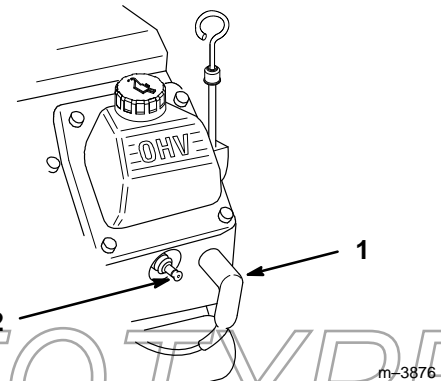

Figure 19
2. Pull the wires off of the spark plugs (Fig. 19).
3. Push the wires onto the spark plugs (Fig. 19).